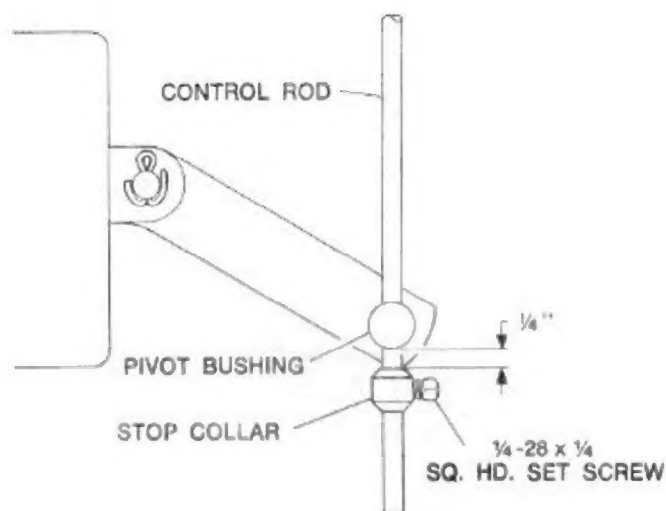

FIG. 10
- B. Move the stop collar to within  $\frac{1}{4}$ " of the pivot bushing, Fig. 10, and tighten the set screw.